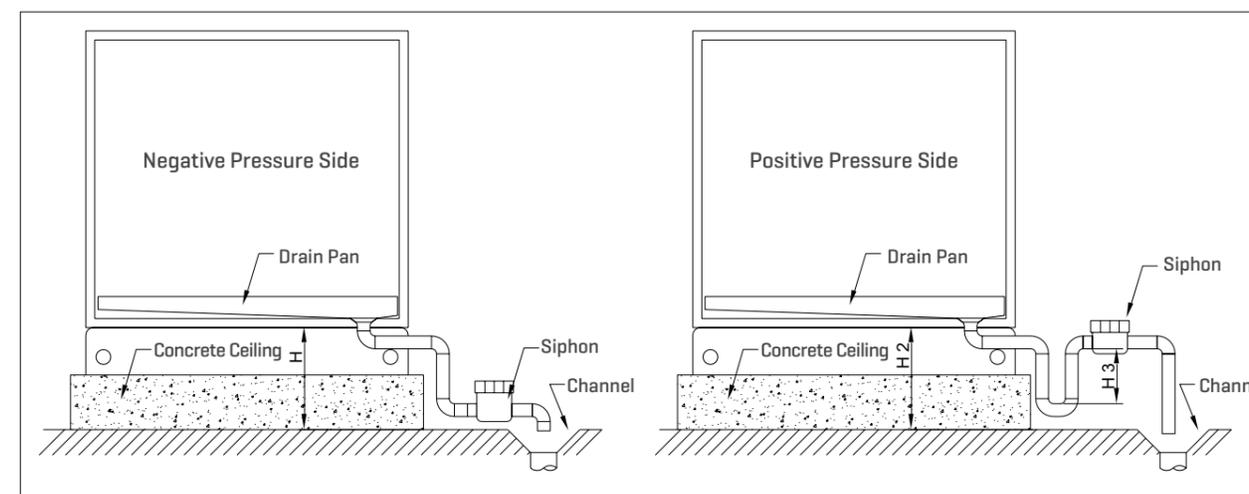

Figure 16. Siphon Connection for Positive and Negative Pressure
- The special siphon provided with the unit and placed inside the cell (for positive and negative pressure applications) must be correctly installed (Figure 16).